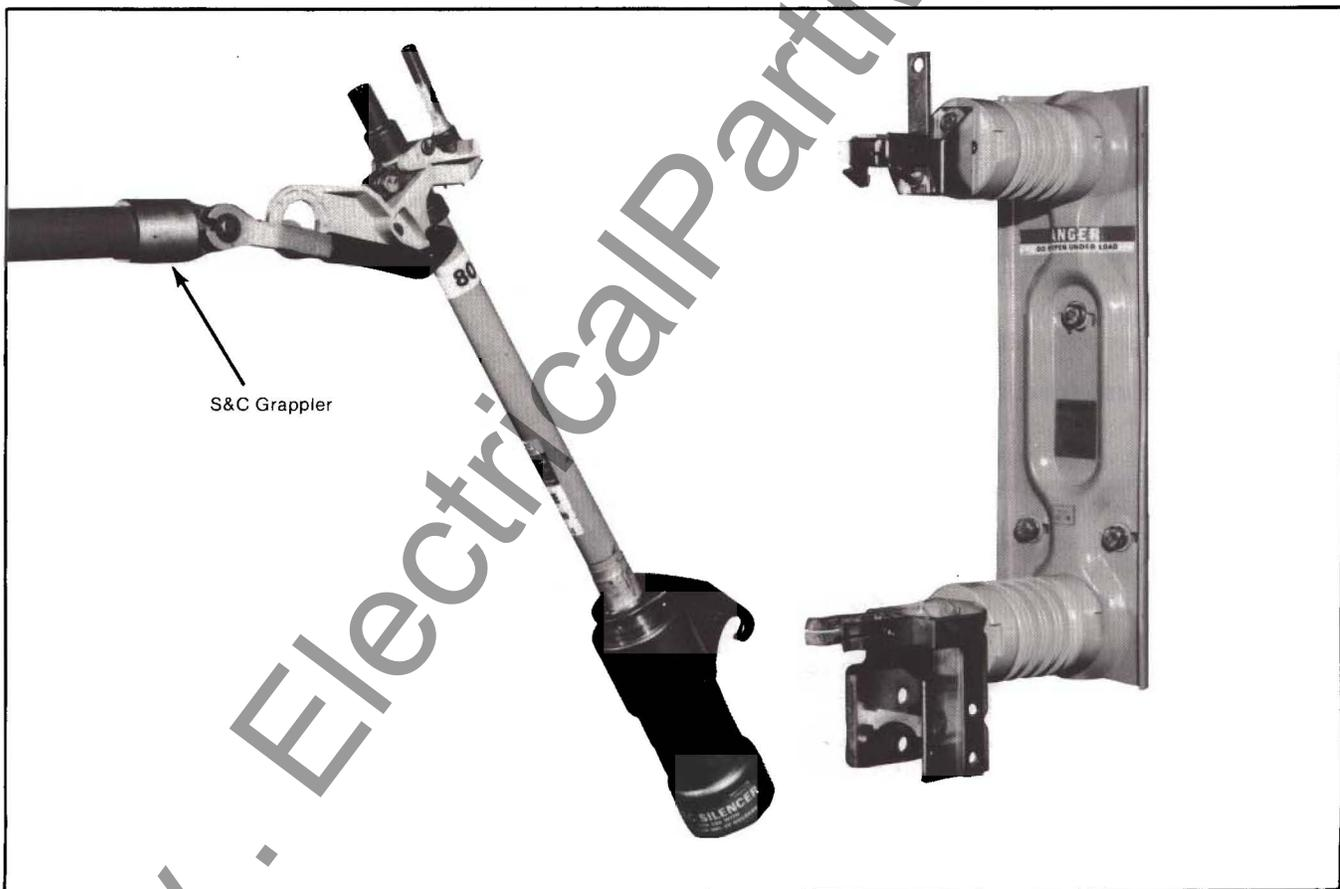

Figure 2. Installing (or removing) fuse using Grappler.
equipped with an S&C Grappler.† Position the Grappler cone in the fuse pull ring and cradle the fuse tube in the Grappler prongs (see Figure 2).
- b. Position the Grappler cone in the fuse pull ring and cradle the fuse in the Grappler prongs (see Figure 2).